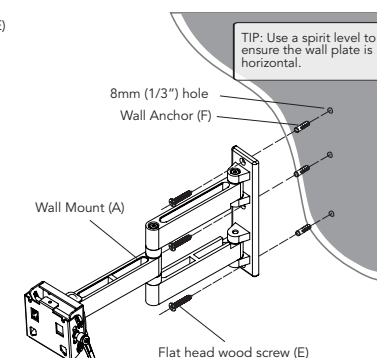

fig. 2.2
Place mount on wall, using level to ensure wall mount will be straight. For concrete block installations mount in a solid area, at least 25mm (1") from the sides of the block. Mark holes, then drill three 8mm (1/3") diameter holes with minimum depth of 65mm (2.5"). Insert wall anchors (F) in holes flush with wall. Place wall arm over wall anchors and secure with wood screws (E). Tighten fasteners, making sure the wall arm is level, see fig. 2.2.